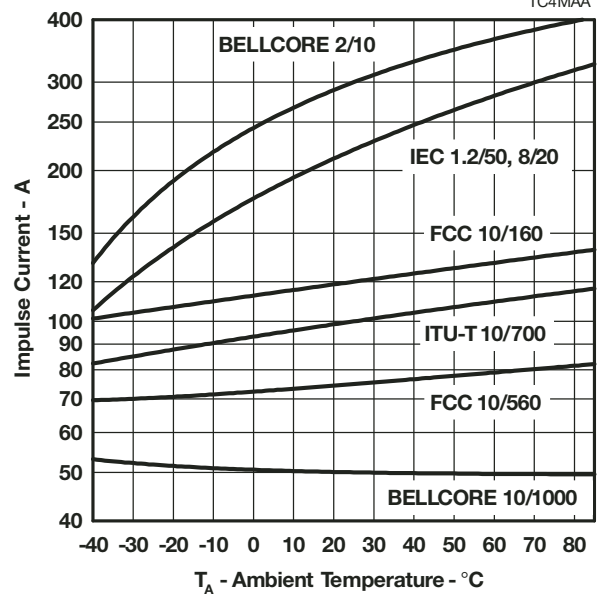
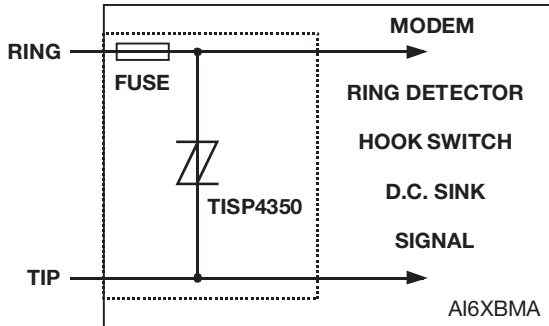
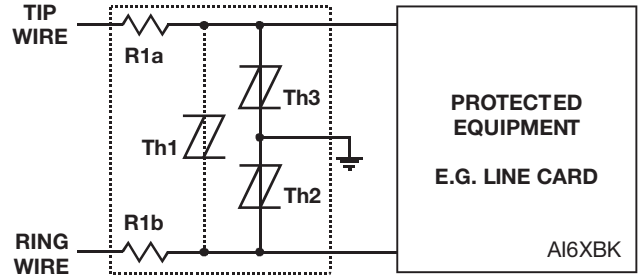
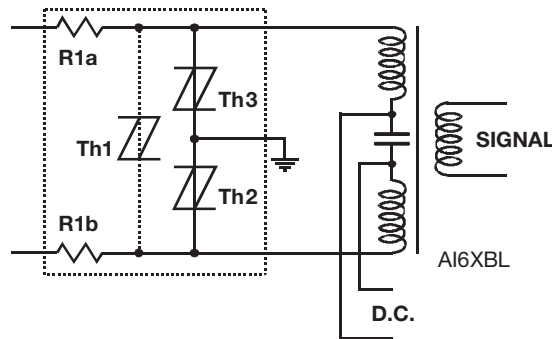

Figure 11.
Figure 14. Modem Inter-Wire Protection
Figure 15. Protection Module
Figure 16. ISDN Protection
4. See Applications Information and Figure 11 for current ratings at other temperatures.
For the FCC Part 68 10/560 waveform, the following values result. The minimum total circuit impedance is  $800/75 = 10.7 \Omega$  and the generator's fictive impedance is  $800/100 = 8 \Omega$ . This gives a minimum series resistance value of  $10.7 - 8 = 2.7 \Omega$ . After allowing for tolerance, a  $3 \Omega \pm 10\%$  resistor would be suitable. The 10/160 waveform needs a standard resistor value of  $5.6 \Omega$  per conductor. These would be R1a and R1b in Figure 15 and Figure 16. FCC Part 68 allows the equipment to be non-operational after the 10/160 (conductor to ground) and 10/560 (inter-conductor) impulses. The series resistor value may be reduced to zero to pass FCC Part 68 in a non-operational mode, e.g. Figure 14. For this type of design, the series fuse must open before the TISP4xxxM3 fails. For Figure 14, the maximum fuse  $i^2t$  is  $2.3 A^2s$ . In some cases, the equipment will require verification over a temperature range. By using the rated waveform values from Figure 11, the appropriate series resistor value can be calculated for ambient temperatures in the range of  $-40 \text{ }^\circ\text{C}$  to  $85 \text{ }^\circ\text{C}$ .
The protector characteristic off-state capacitance values are given for d.c. bias voltage,  $V_D$ , values of 0, -1 V, -2 V and -50 V. Where possible values are also given for -100 V. Values for other voltages may be calculated by multiplying the  $V_D = 0$  capacitance value by the factor given in Figure 6. Up to 10 MHz, the capacitance is essentially independent of frequency. Above 10 MHz, the effective capacitance is strongly dependent on connection inductance. In many applications, such as Figure 15 and Figure 17, the typical conductor bias voltages will be about -2 V and -50 V. Figure 7 shows the differential (line unbalance) capacitance caused by biasing one protector at -2 V and the other at -50 V.